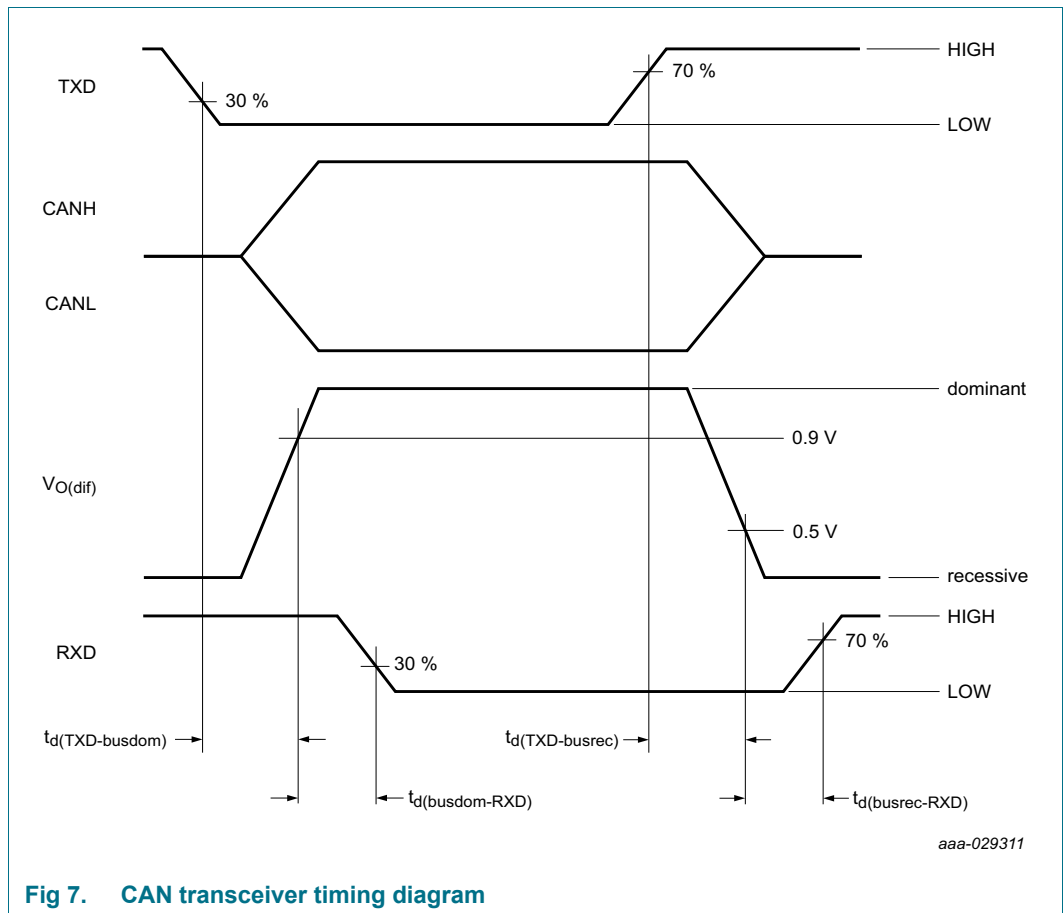
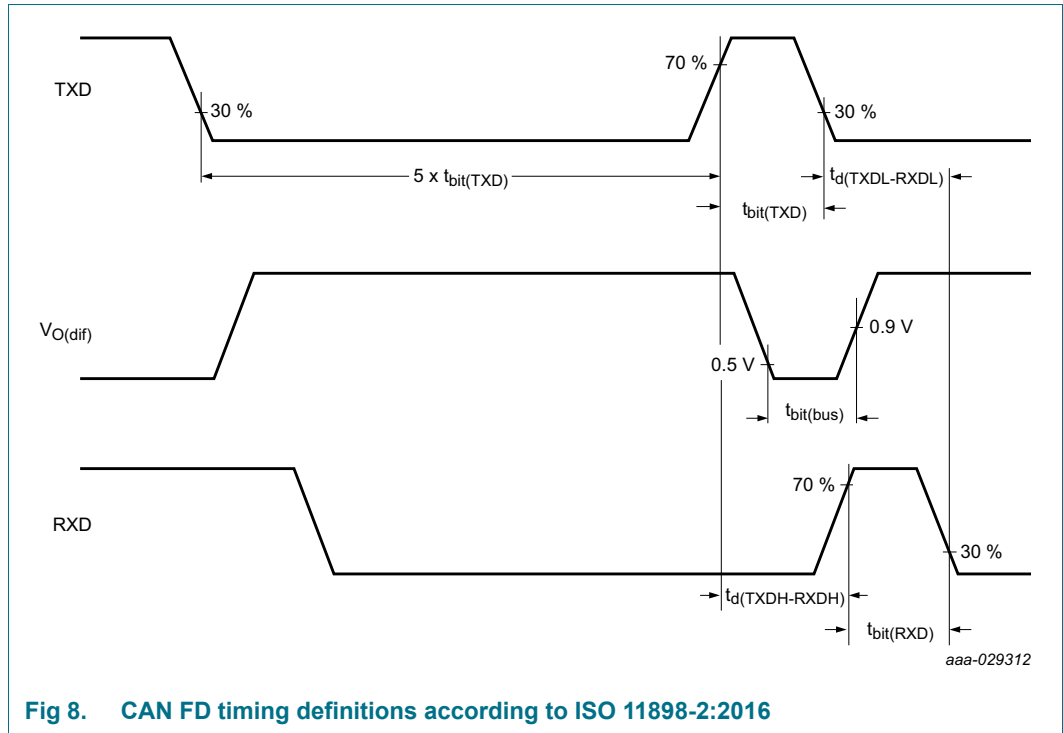
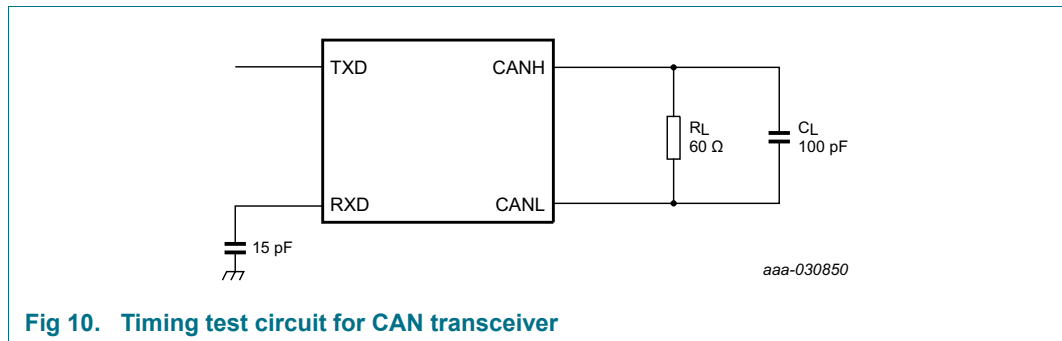

Fig 7. CAN transceiver timing diagram
Fig 8. CAN FD timing definitions according to ISO 11898-2:2016
Fig 10. Timing test circuit for CAN transceiver
- [2] See Figure 7 and Figure 10.
- [3] See Figure 8 and Figure 10.